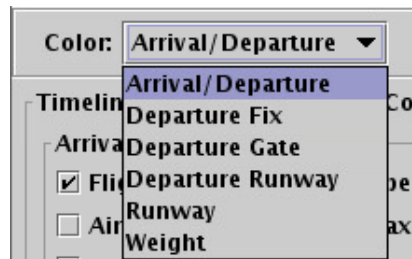

Figure 15. Timeline color scheme.
**Step 1:** Click on the "Color:" drop-down list arrow (Figure 15).